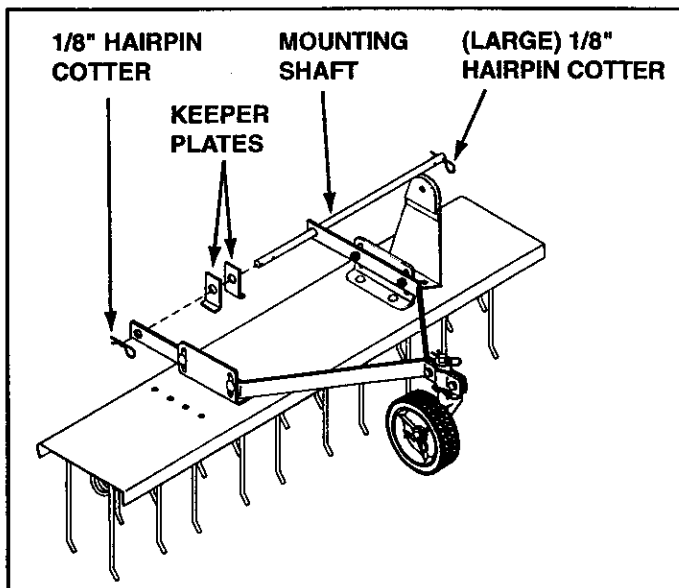

FIGURE 6
- Assemble a 1/8" hairpin cotter to one end of mounting shaft. Insert other end of mounting shaft through holes in both mounting arms, assembling two keeper plates (as shown) onto shaft between arms. Secure mounting shaft to mounting arms with a (large) 1/8" hairpin cotter in end of shaft. See figure 6.